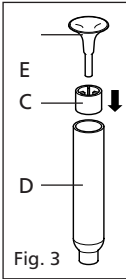

Fig. 3
- Locate the Bell Support (C) to the Bell Main Body (D) and push fully home.
- Position the Bell (E) to the Body Assembly and press into the central location. See fig 3.